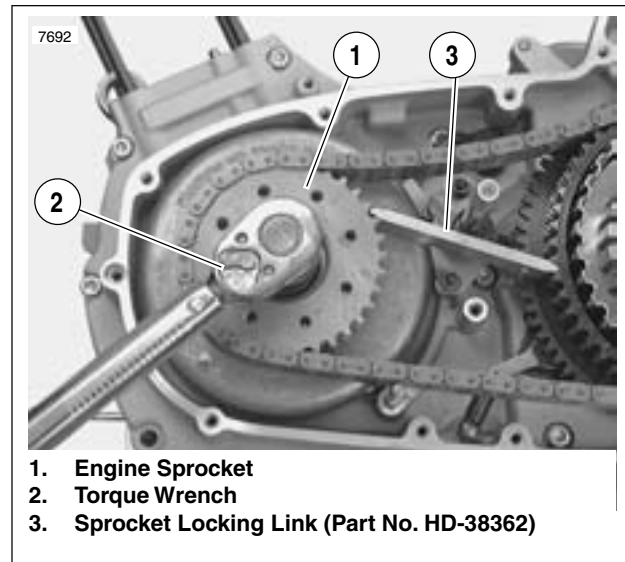

Figure 6-29. Sprocket Locking Link
2. See Figure 6-29. Install the engine sprocket nut.